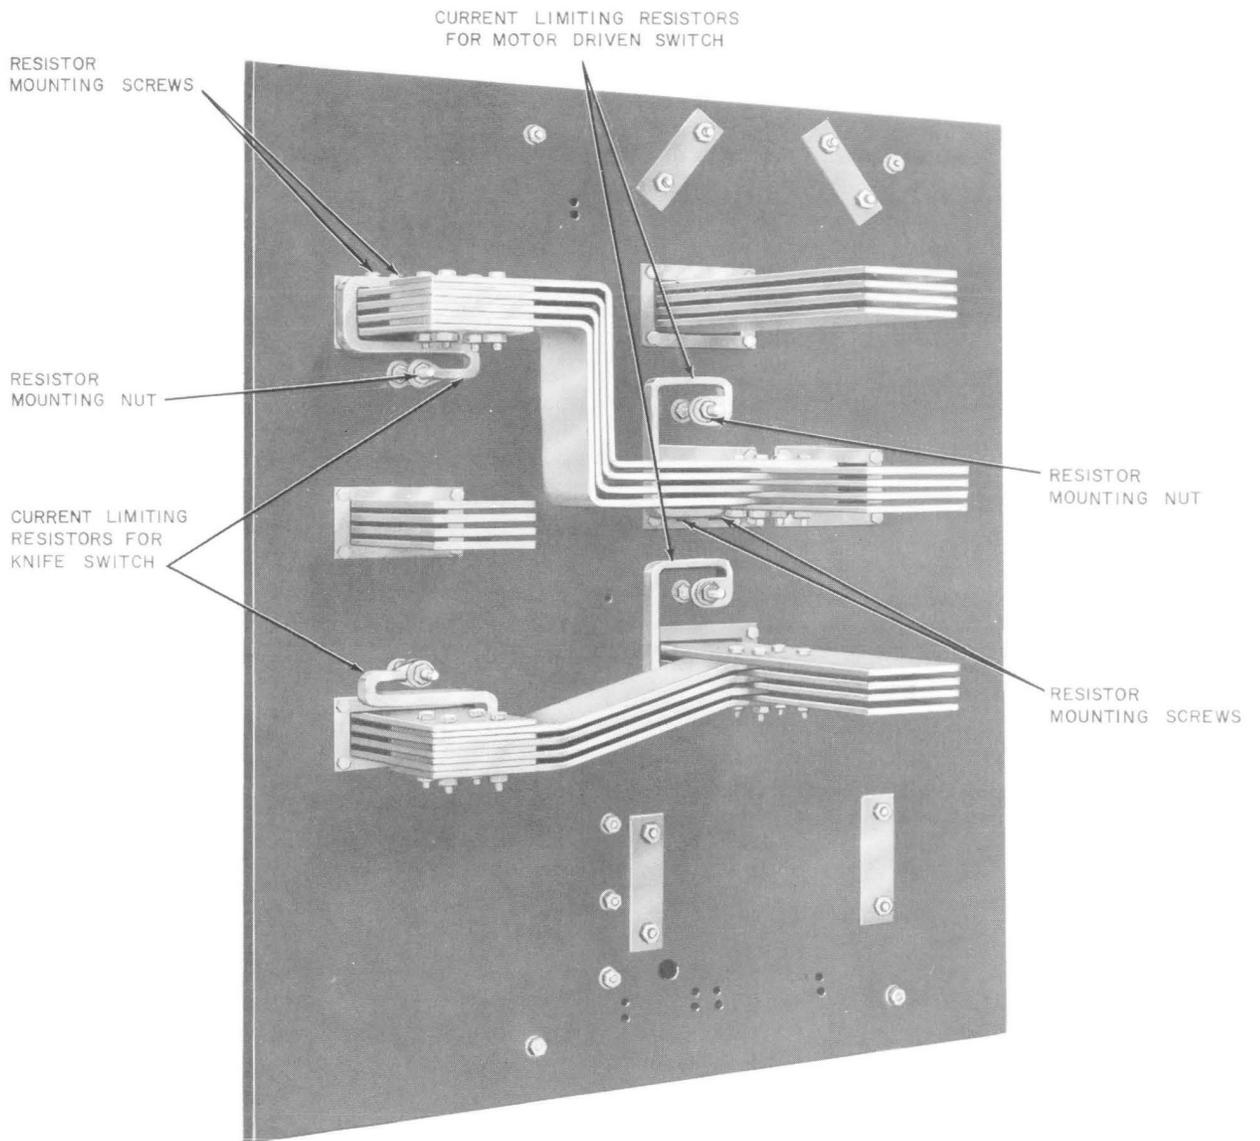

Fig. 3—KS-15610 and KS-15624 Type Switch Panel—Rear View (KS-15610 L4 switch panel shown)
3.19 Current Limiting Resistors—Fig. 3: Before replacing a current limiting resistor, make sure that the bridging slider is in the normal position of the switch.